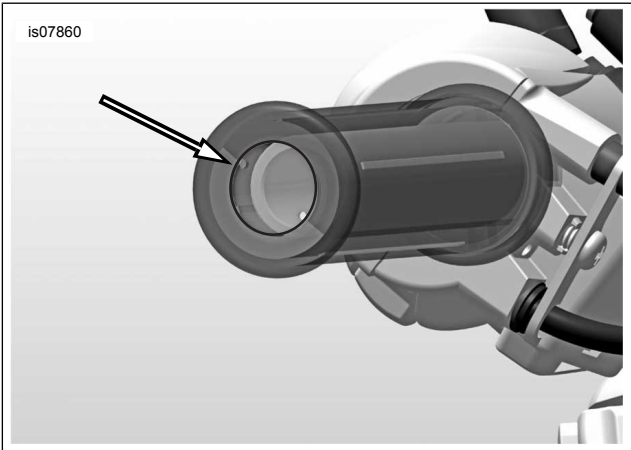

Figure 3. Cut End of Grip
1. See Figure 3. Carefully cut the end of the grip.